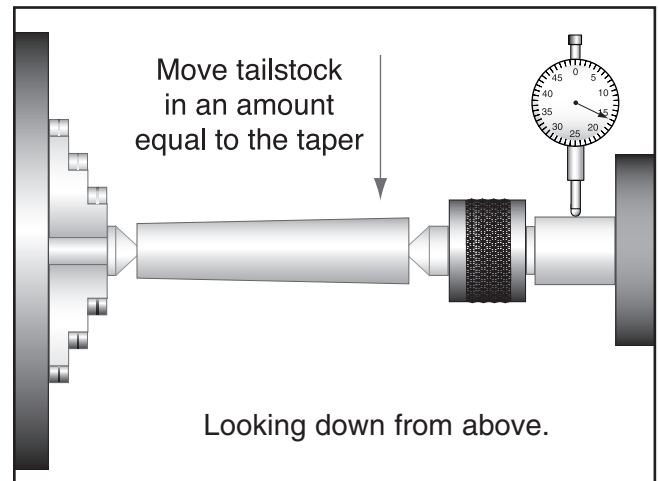

Figure 16. Adjusting for headstock end taper.
6. Mount a dial indicator so that the plunger is on the tailstock barrel (**Figure 16**).
7. Measure the stock with a micrometer. If the stock is wider at the tailstock end, the tailstock needs to be moved toward the cutter the amount of the taper (**Figure 16**).